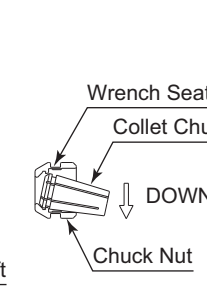
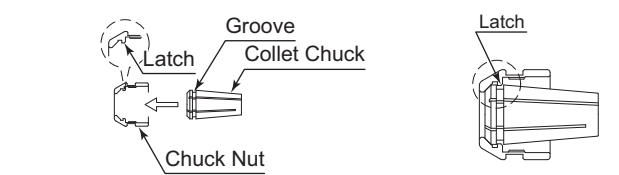

Fig. 10
Fig. 11
- The collet chuck and chuck nut are secured by a groove in the collet chuck and a flange in the chuck nut. To remove the collet chuck hold the chuck nut in one hand and push diagonally down on the collet chuck. The collet chuck should be released (Fig. 10).
- To install the collet chuck, hold the collet chuck at a slight angle, and insert it into the chuck nut (Fig. 11). Press the collet chuck in the chuck nut by positioning the collet chuck in the chuck nut and pressing down on flat surface (Fig. 10). Be sure to fully engage the latch inside the chuck nut into the groove on the collet chucks outer circumference area (Fig. 12).